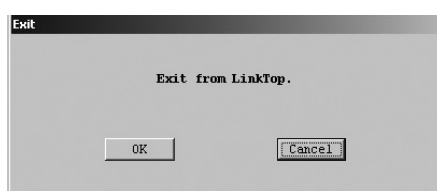

Fig.15
To exit the LinkTop, click on "File (F)" at top-level menu of the screen, select "Exit (E)," and click on again. A message box as shown in Fig. 15 appears. If you are sure to exit the LinkTop, click on "OK" button. Clicking on "OK" button will cause the application window to disappear from the desktop.